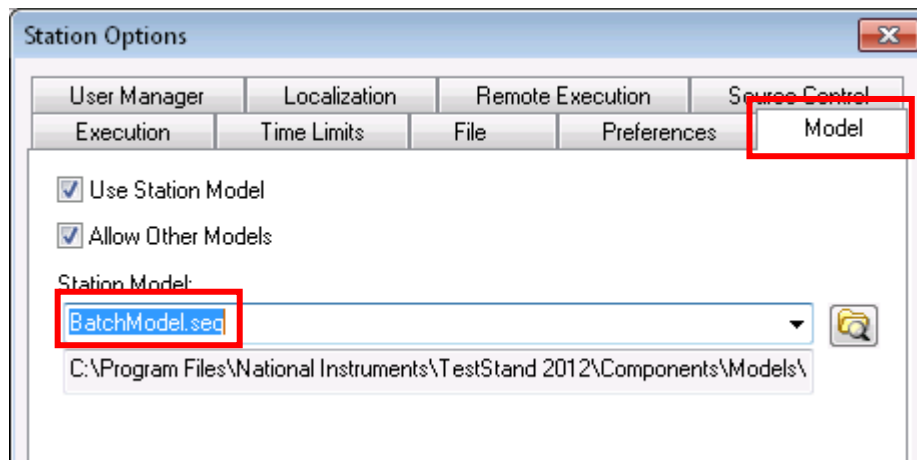

Figure 3-1. Changing the Station Process Model
- In the **Model** tab of the Sequence file Properties dialog, change the Station Model setting to **BatchModel.seq** as shown in Figure 3-1.